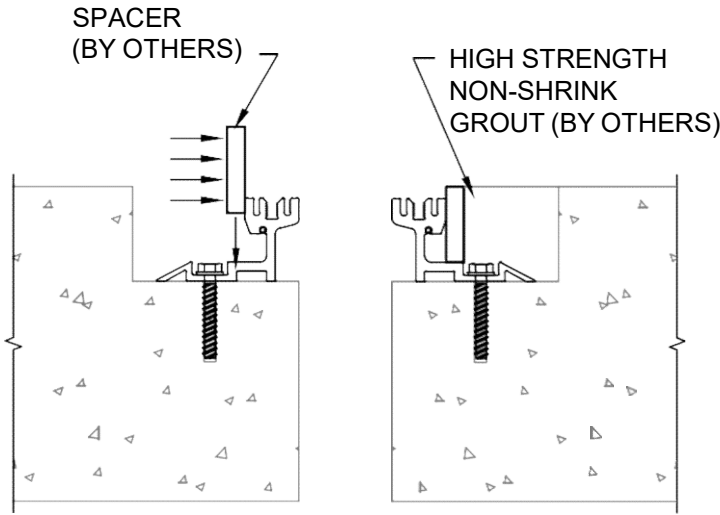

FIGURE 3A.1
- 3A.1) Install $\frac{3}{8}$ " [9.53mm] wide continuous Spacers (by others) between the Rear Blockout Wall and the Side Frame. The depth of the Spacer will be determined by the depth of the system being installed. Note: The Spacers may need to be greased on the side facing away from the expansion joint to ease removal. (See Figure 3A.1)